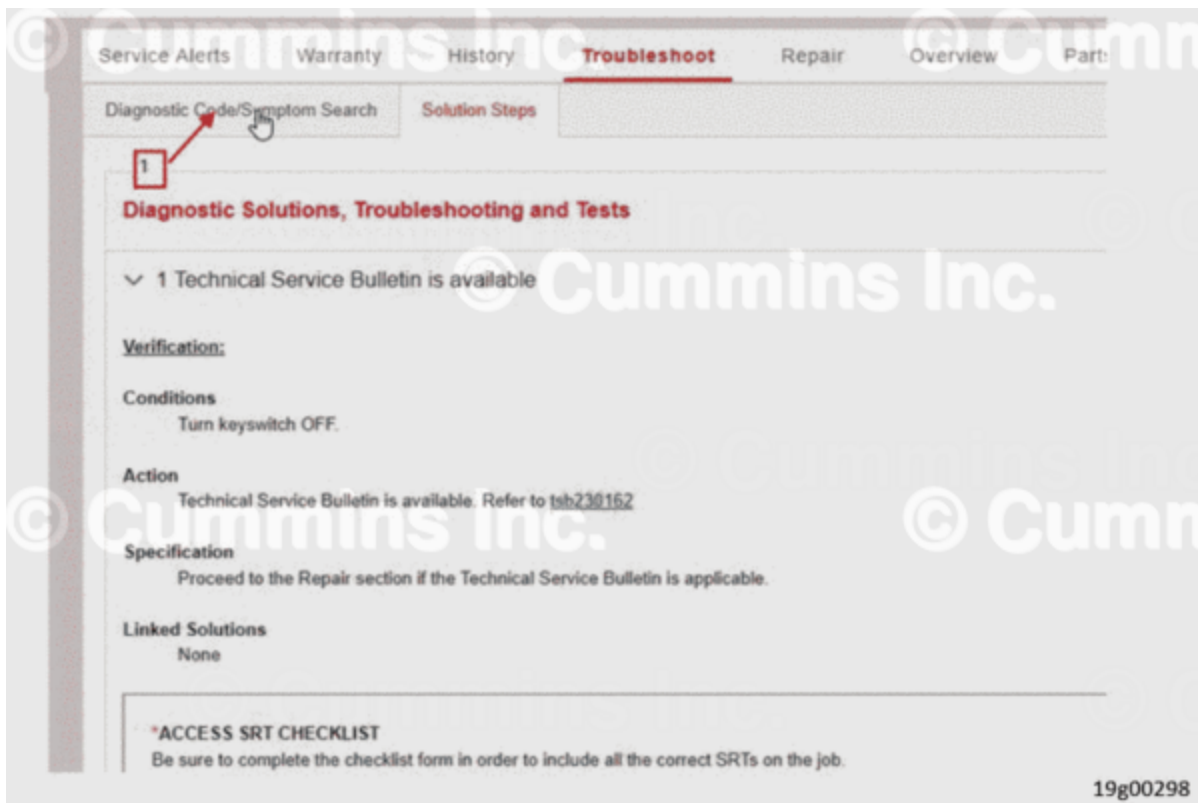

Figure 4, Guidanz Symptom Search
- After 10 minutes, follow this path in Guidanz SEM (See Figures 4 and 5):
2026-3-30	Adding some additional detail to help the field get to correction solution, added Figures 4, 5, and 6.